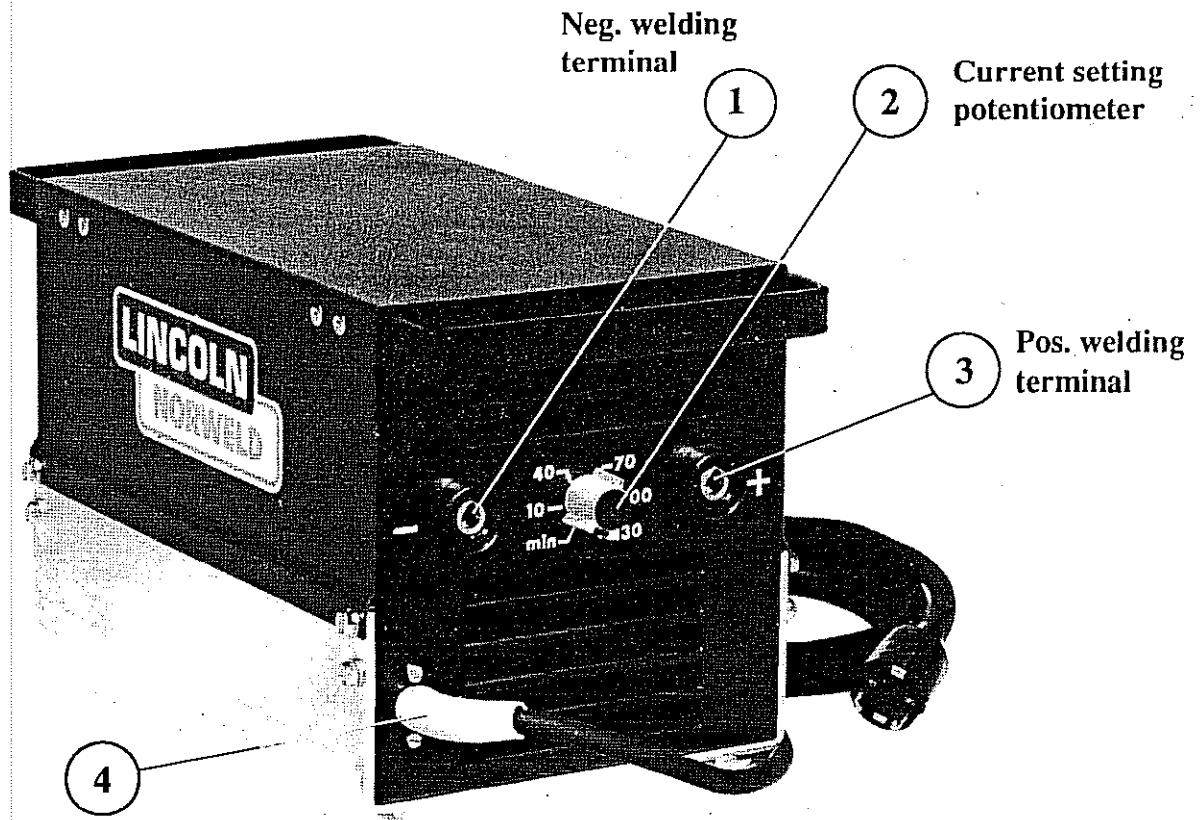

Fig. 4. Front
Connect the welding cables to the output terminals (fig. 4 pos. 1 and 3). Make sure that the DIX contacts are in a locked position (twist it to the right). Make sure that the work clamp has good contact with the work piece. Clean the work piece at the contact point if necessary. Bad welding cable connections may lead to burned contacts and unsatisfactory welding results.
Set the current potentiometer on the front (fig. 4 pos. 2) in a position corresponding to the needed current. The scale is calibrated at nominal line voltage and at standard load voltage, measured on the output terminals. Actual current may differ, and the scale should therefore only be regarded as a guide line.